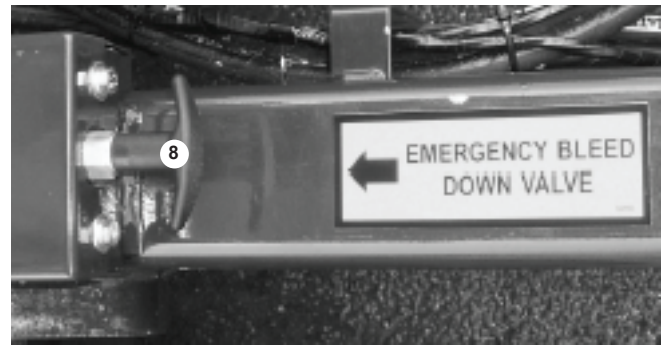

Figure 9.6 - Manual Bleed Down Control
- If the platform will not lower, the person on the ground will need to use the manual bleed down valve (8) (see figure 9.6) located at the front of the chassis. To lower the platform pull on the cable (8) until the platform is fully lowered.